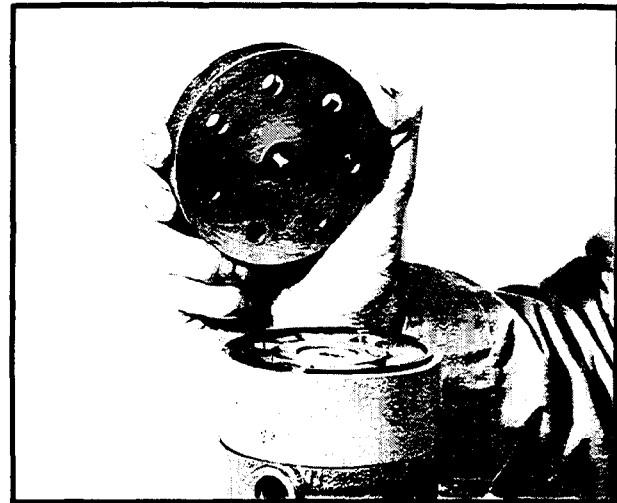

Figure HGA-8
3. Unscrew the seven special bolts (39) from the end cover (38). Note: Special care should be used in the following steps to insure protection of the ground and lapped faces of the components. Avoid scratching or nicking of finished surfaces.
4. Remove end cover (38) by bumping it sideways with a soft hammer to loosen it from the rotor seal (36) and seal retainer (35), and lift from unit. Caution: The washer (37) and commutator (34) may adhere to the end cover, and may be removed with the end cover. Do not attempt to remove pin because pin is press fit in the plate and is non-serviceable. (See Figure HGA-8).
5. Remove the rotor seal (36) and seal retainer (35) by bumping the retainer sideways with a soft hammer to loosen it from the valve body and lift off the rotor seal and seal retainer. Discard rotor seal.
6. If the wear washer (37) and commutator (34) were not removed with the end cover (38), remove these parts from the HGA unit.